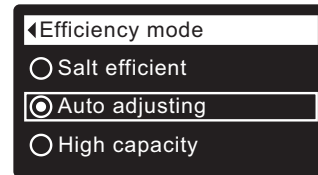

FIG. 138
8a. Efficiency mode: If the desired efficiency mode already has a dot next to it (See Figure 138), go to Step 9. Otherwise, press the DOWN (▼) or UP (▲) buttons to scroll to the desired efficiency mode, then press SELECT (O) to choose it.